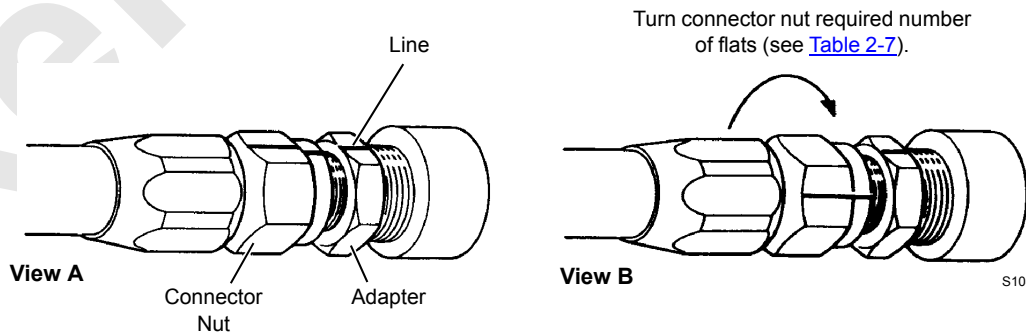

FIGURE 2-9
2. Mark a line (use felt pen or marker) on adapter and extend it onto connector nut (Figure 2-9, View A).
3. Using wrenches, tighten connector nut the number of flats shown in Table 2-9 (Figure 2-9, View B).